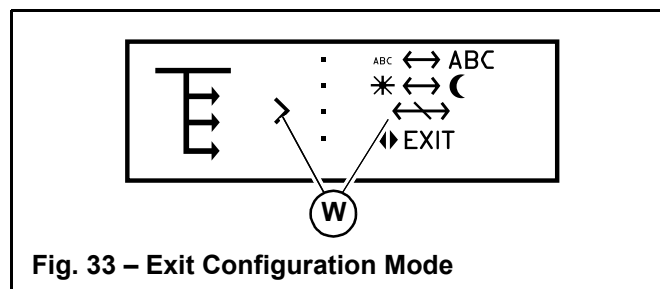

Fig. 33 – Exit Configuration Mode
4. Press and release the interface button until the selection caret points to the “EXIT” selection (W, Fig 33). Press and hold the interface button for 5 seconds. The travel speed limit option is now activated.